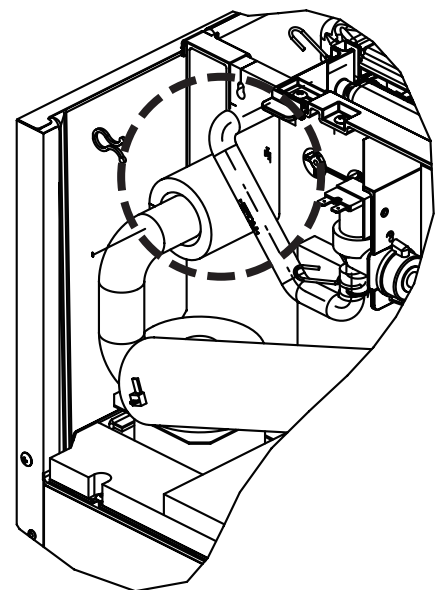

Fig. 2
- 4) Move the Control Switch to the "ICE" position. When the unit enters the freeze cycle, allow it to run for 5 minutes after the thermistor temperature reaches 2°C in the freeze cycle and then disconnect the 3-pin Float Switch Connector (gray wire). The Connector is not shown, but it is located in the general area of the circle in Fig. 2. After the Float Switch is disconnected, the defrost cycle should start. If the defrost cycle does not start, replace the board. See "V. 14. [d] CONTROL BOARD".